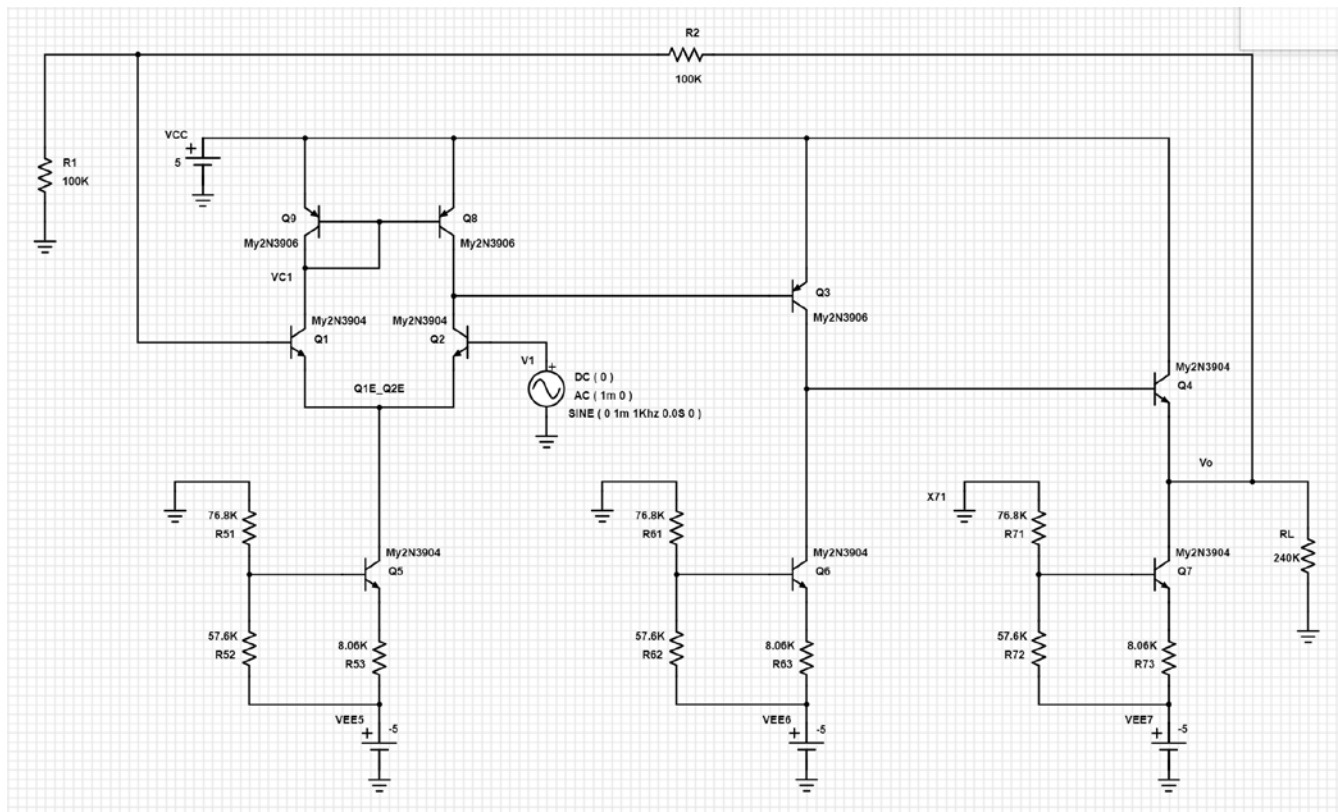

Fig. 2 Schematic diagram of the negative feedback amplifier
- 1.4 In PartSim, construct the negative feedback amplifier using the circuit diagram as shown in Fig. 2, with resistance values and supply voltages specified in the figure.
- 1.9 Based on Fig. 2, construct the measurement setup for the feedback amplifier using the differential amplifier designed in Lab 3, and the common-emitter (CE) and the common-collector (CC) amplifiers designed in Lab 2.
- 1.11 Connect the Waveform Generator (W1) and Scope Ch. 1 Positive (1+) to the input V_1 of the amplifier. Connect Scope Ch. 2 Positive (2+) to the output V_o of the amplifier at the emitter of Q_4 . Connect both Scope Channels Negative terminals (1-) and (2-) to the ground (GND) of AD2, and also connect the V_+ and V_- Power Supply as shown in Fig. 2. In the WaveForms software open the Wavegen, Scope, and Supplies tools. In the Wavegen Channel 1 (W1), launch a sine wave with Frequency = 1 kHz, Amplitude = 1 V, and Offset = 0 V, and then press Run. Next, in the Supplies tab, enable the voltages with $V_+ = 5V$ and $V_- = -5V$, respectively. In the Scope tab, press Run to see the input (Ch.1) and output (Ch.2) signals. Set the Base (sec/div) and Range (V/div) to be the same as these in both channels to see the signals clearly. Next, press Single to take a screenshot of the data. Finally, go to the upper toolbar and select Export to copy both input
Q6. What kind of feedback configurations (e.g., shunt-shunt or others) is it for the circuit in Fig. 2?